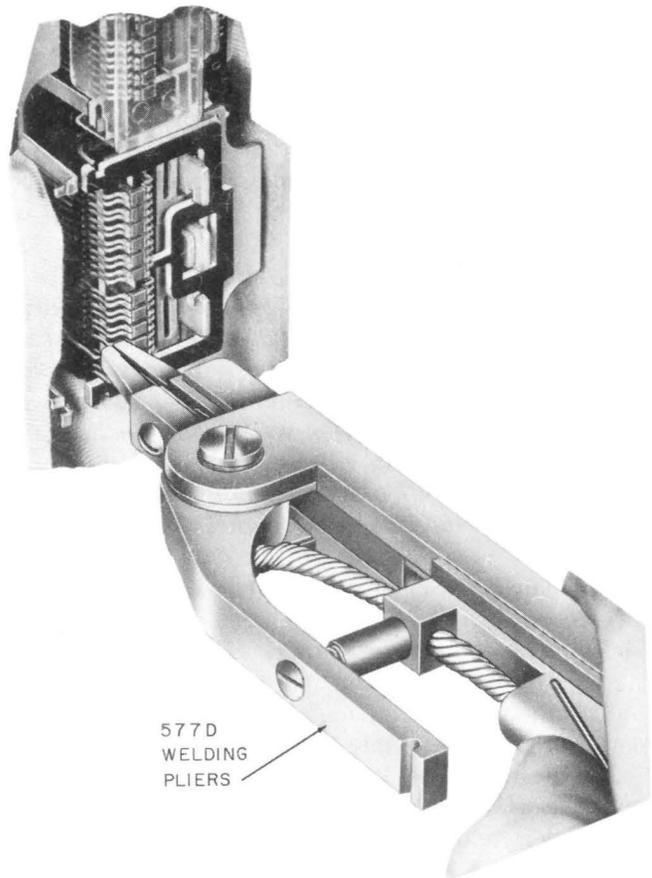

Fig. 7—Welding Contact on Movable Twin Spring
4.20 With the contact tape positioned in the 577D welding pliers as covered in 4.16, hold the pliers with the latch released and the jaws of the pliers slightly open. Place the pliers over the spring so the slot in the movable electrode straddles the short offset portion of the spring as shown in Fig. 7. Hold the pliers horizontally and in line with the end of the spring as shown in the figure. Make sure the offset portion of the spring is seated in the slot of the electrode, and that the front end of the spring rests fully in the recess in the electrode. If necessary, move the pliers slightly until the spring is firmly seated in the electrode. Then release the pressure on the handles of the pliers to close the jaws, and hold the contact firmly in position on the contact spring as shown in the figure. Remove the tweezers from the spring.
4.21 Hold the pliers in a horizontal position in line with the end of the spring as shown in Fig. 7 with no hand pressure on the handles of the pliers. Depress and release the control button of the current supply set. Do not operate the control button more than once for any one welding operation. Holding the control button depressed will have no effect since the time control relay in the current supply set is held locked until the control button is released.